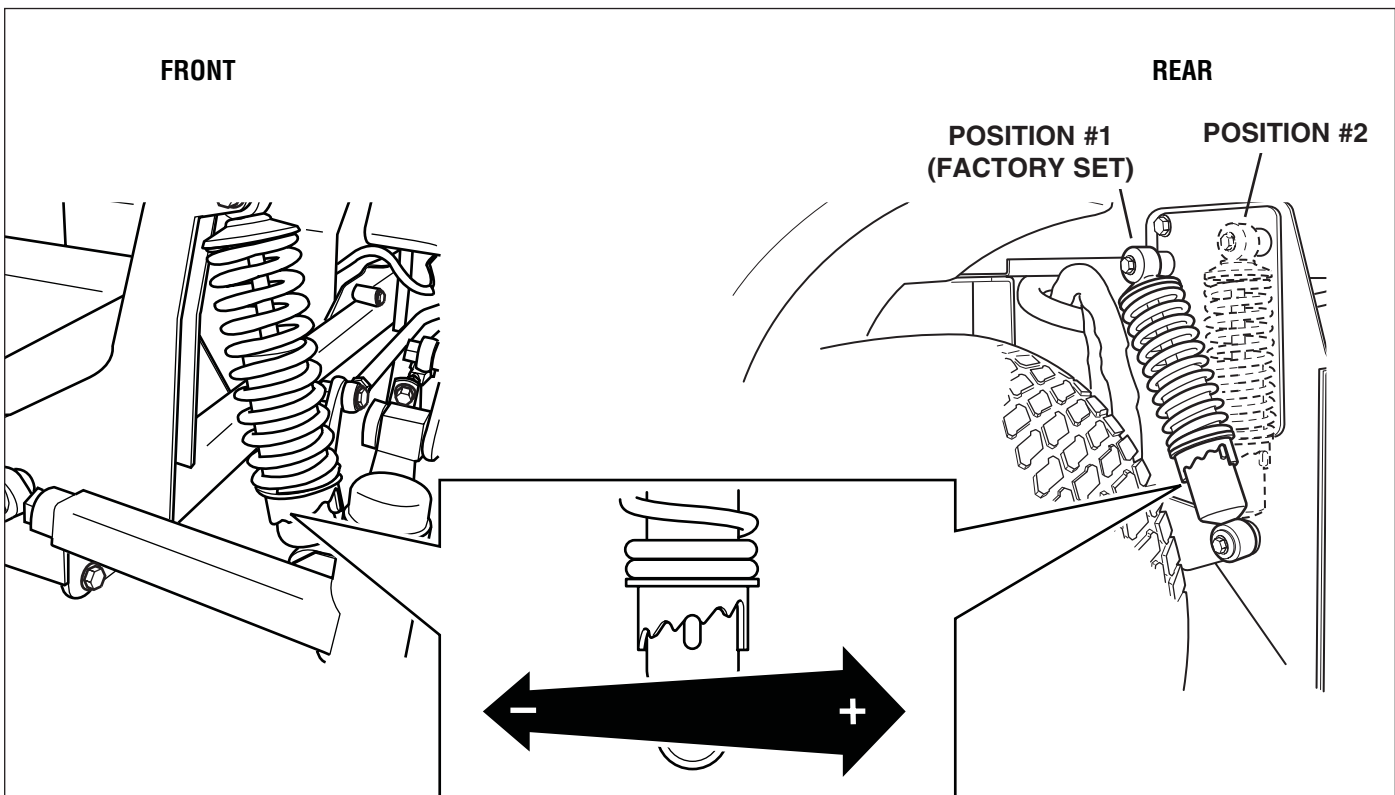

Figure 41. Suspension Adjustment
2. See Figure 41. Using the supplied spanner wrench (p/n 5022853), insert the tip of the wrench into the notch in the pre-load adjuster. While holding the wrench with both hands, turn **CLOCKWISE** to decrease the pre-load, turn **COUNTER-CLOCKWISE** to increase the pre-load. Make sure that for each shock (Figure 41) that the left-hand and right-hand are set to the same amount of pre-load.